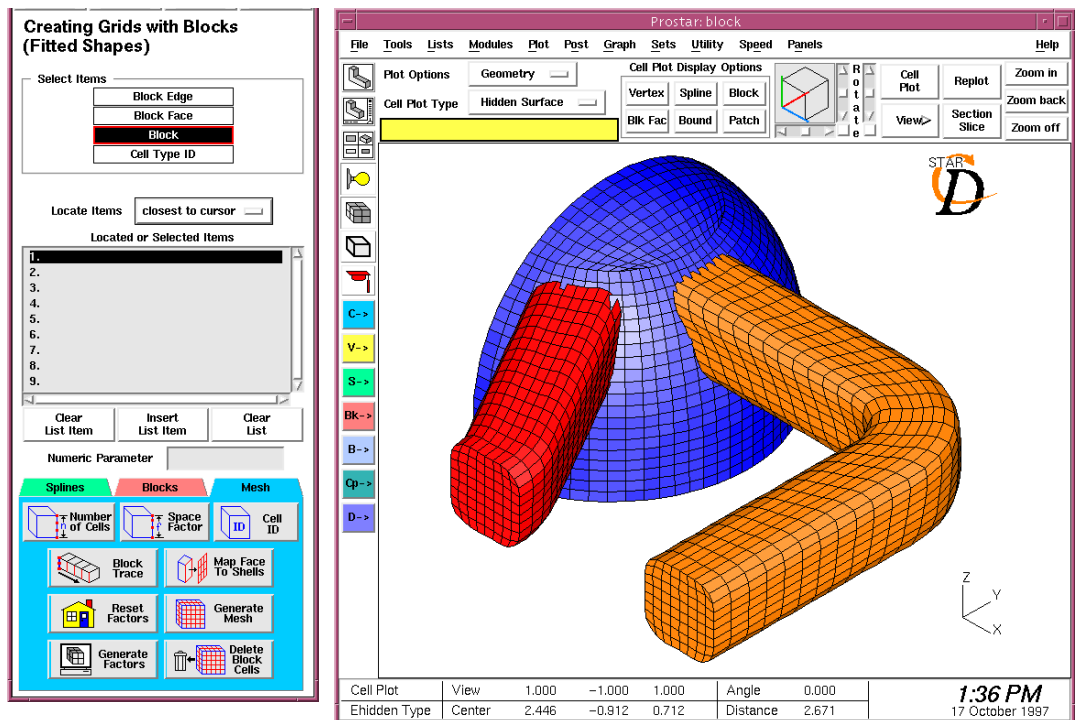

Figure 3-62 Resultant mesh
- Click the **Generate Mesh** button. This will automatically select the appropriate cell type for each block and will produce a mesh matching the geometric and parametric values specified in Stages 1 and 2. The resulting mesh for all three blocks is shown in Figure 3-62.